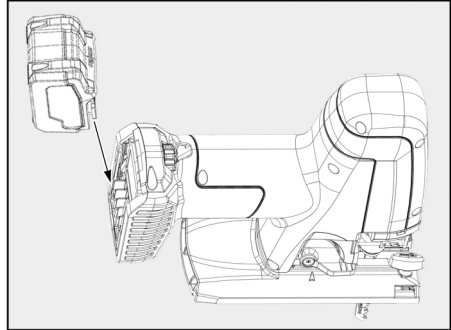

Fig. 3: Inserting the rechargeable battery into the machine
1. At the point marked "X" (Fig. 3), squeeze the two release buttons together and pull one of the parts backwards while holding the release buttons compressed.